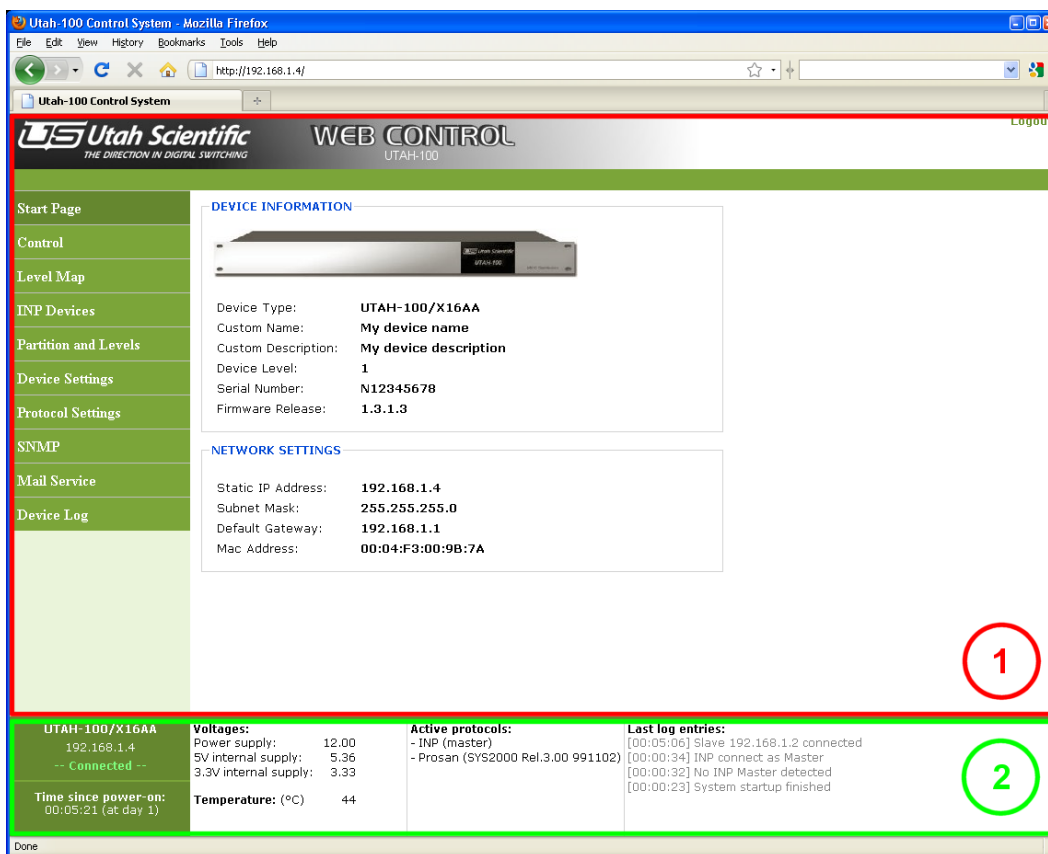
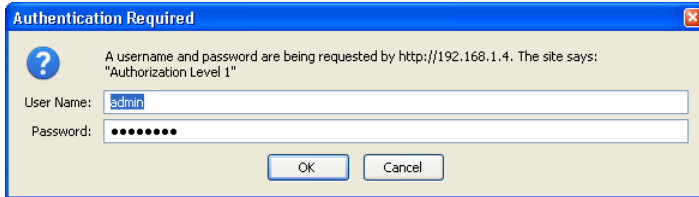

Figure 1: Start Page and the layout of the web interface
Figure 2: Users must logon to access the web interface
The web interface consists of two parts/frames (figure 1); a top frame displaying the different page contents (1), and a bottom frame which is visible at all times displaying the device hardware status and other useful information (2). The bottom frame is updated at intervals of a few seconds.
When accessing the Web Control of a UTAH-100 device the user must log on with a registered username and password (figure 2). Default username is “admin” and default password is “password” (both without quotes). After a successful logon, the Start Page is shown (figure 1) with an image and some info about the device and the current network configuration.